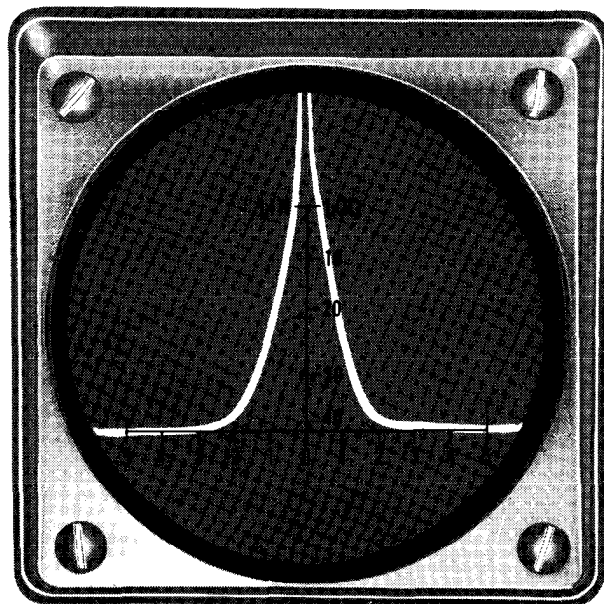
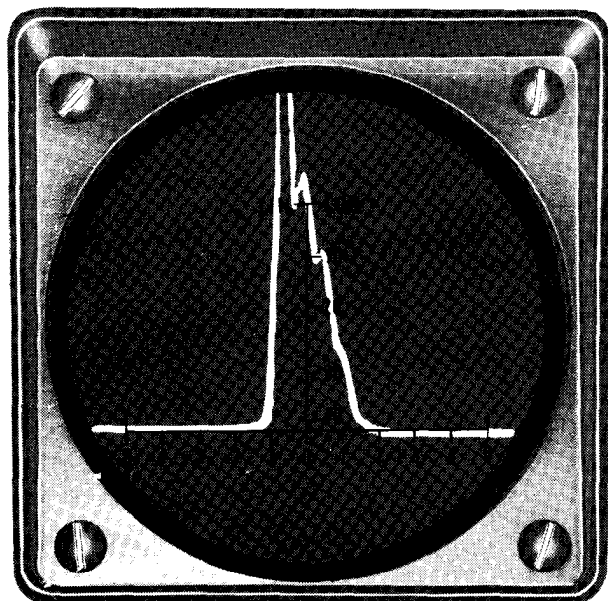

Figure 21
Figure 22
- () Compare the pip on the CRT screen with the pip shown in Figure 21. If there is any ringing or flyback on either side of the pip, as shown in Figure 22, adjust the core of transformer T1 to minimize it. Only a slight adjustment should be necessary from the factory preset position.
After the above adjustment, if there appears to be a considerable amount of ripple on both sides of the pip, or there are side pips such as shown in Figure 22 (with an unmodulated input signal), a possible cause is the neon lamp voltage regulator (NE-83-A). Refer to Pictorial 5, fold-out from Page 21, and interchange the leads from lamp FC.